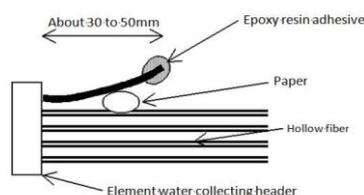

Figure 8-1 Schematic Diagram of the Membrane Repair Procedure
4. **Follow the instruction manual for the epoxy resin adhesive used when doing the following work. Mix the base resin and the accelerator, then dip a skewer or similar into the epoxy resin, and apply a bead of resin to the tip of the hollow fiber so it looks like the head of a match (Figure 8-1 below). Adjust the amount of the epoxy resin adhesive to be applied to prevent dripping. It may be applied twice, or when it becomes viscose to some extent.**